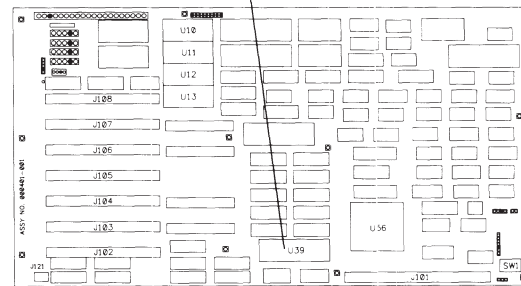

Figure 7-26. Location of the 80287 Coprocessor Socket on the System Board.
2. Locate the 80287 coprocessor on the system board, and lift the coprocessor off with your fingers (Figure 7-26).